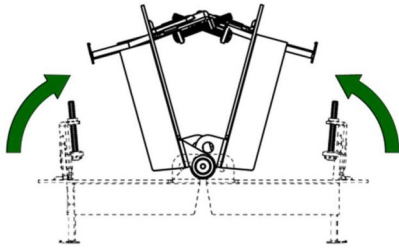
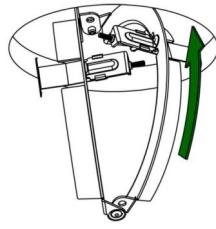

Fig. 3
Fig. 4
- Fold mounting ring in half (Fig. 3) and insert through opening in ceiling. (Fig. 4)